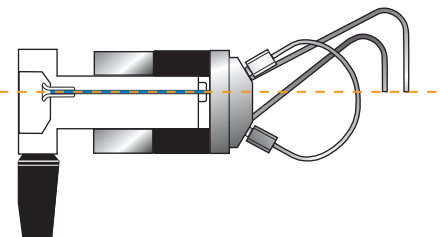

Fig. 4. Correct position of vent lines.
c) See **Caution 4.4**. Connect the two vent tubes (supplied) to Ports 5 and 6. Place the outlet ends of both at the same horizontal level as that of the needle port to avoid siphoning. See Figure 4.